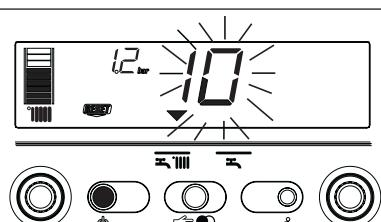

Fig. 70
2) Viewing just the symbol (fig. 70)